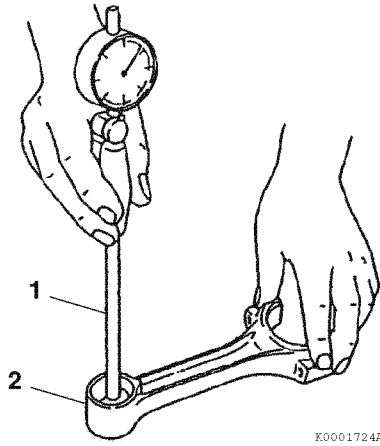

Figure 6-70
1. Measure the wrist pin bushing bore using a bore gauge (1, **Figure 6-70**). Replace the bushing if not within specifications. If the bushing has been removed, measure the inside diameter of the connecting rod small end (2, **Figure 6-70**). See *Connecting Rod* on page 6-8 for specifications.